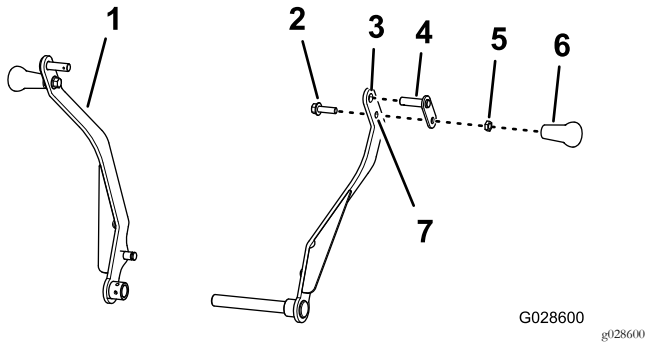

Figure 15
1. Assemble the pivot pin through the upper hole in the cradle arm (Figure 15).
3. Assemble the bolt (3/8 x 1-1/4 inch) through the lower hole in the cradle arm and the retainer of the pivot pin (Figure 15) with the jam nut (3/8 inch), and tighten the jam nut to 15 to 17 N·m (11 to 13 ft-lb).
4. Thread the handle onto the bolt (3/8 x 1-1/4 inch) and tighten the handle against the jam nut and tighten the handle by hand (Figure 15).
5. Repeat steps 1 through 4 to the other cradle arm (Figure 15).